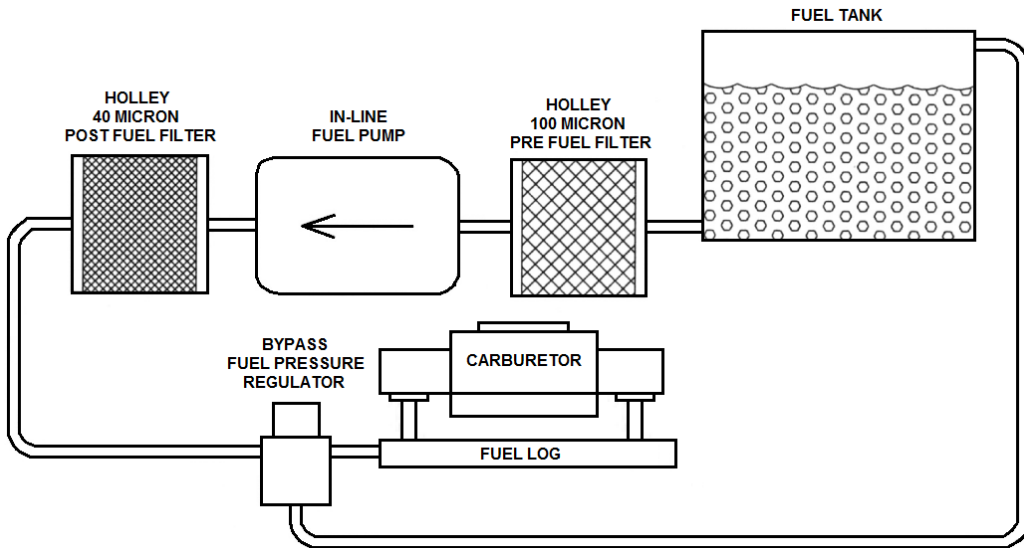

Figure 1a (Carb applications only)
5. Connect the fuel supply line from the tank to the pre-filter and then **to the inlet port of the pump**. Connect the main fuel feed line to the outlet port of the pump, then to the post filter. See **Figures 1a and 1b**.
NOTE: A return style fuel pressure regulator is required for use with the 12-270 fuel pump. Refer to figures 1a and 1b for recommended plumbing scenarios.